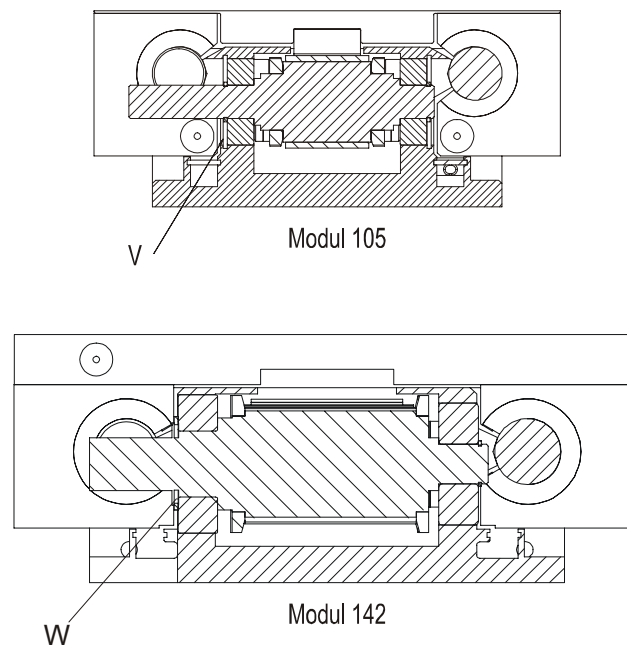

Figure 36: Slave Drive Set
- Remove the retaining ring (V, module 105) resp. the pressure plate (W, module 142) (see Figure 36, page 43).
- Remove the retaining ring (V, module 105) resp. the pressure plate (module 142) (see Figure 36, page 43)..
- Fit the or pressure plate (see Figure 36, page 43, W).